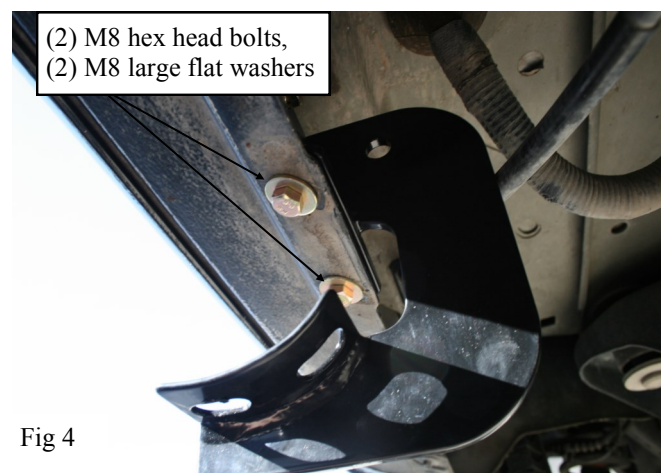

Fig 4
4. Attach the mounting bracket to the bottom holes in the rocker panel using (2) M8 hex head bolts (2) M8 large flat washers, (2) M8 flat washers, (2) M8 lock washers, and (4) M8 hex nuts. Do not fully tighten at this time. Fig 4 & 5